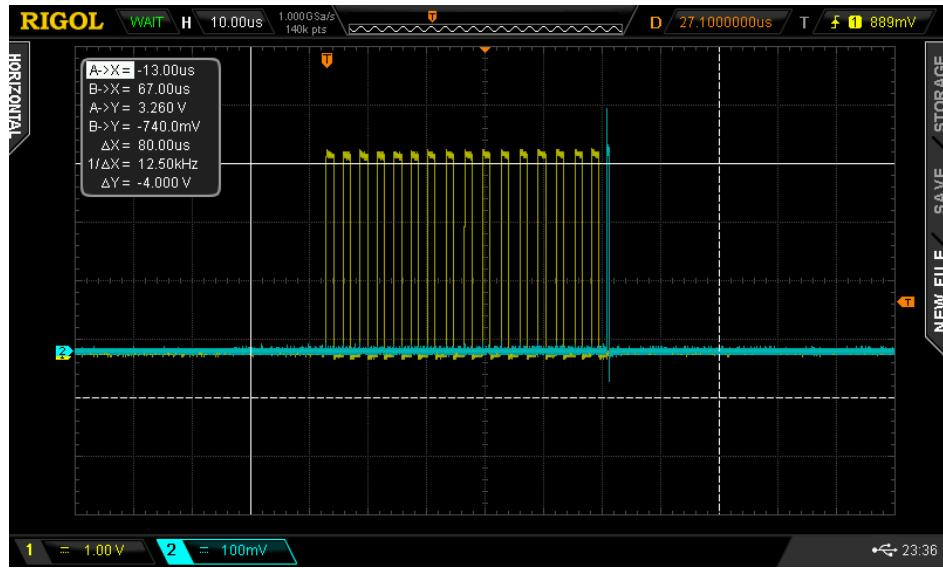

Figure 13: A photo of the uC clock (yellow) and latch enable (blue) pulses on an oscilloscope.
- You should see one bit after the last clock bit (see timing diagram 12). A picture of the oscilloscope trace is in figure 13.